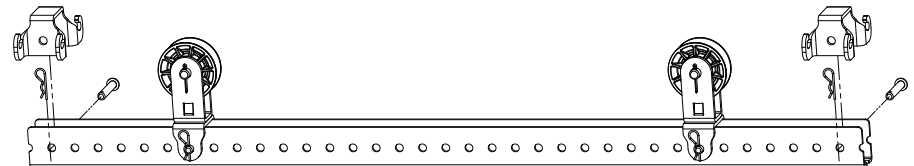

fig 1.2
4. Hooks can be placed wherever they are needed. (fig 1.2)